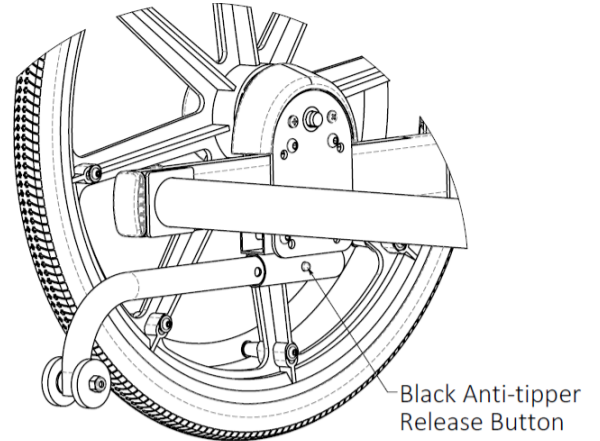

Figure 16.32: Installing rear anti-tip
1. Press and hold the release button on the anti-tipper tube. (See Figure 16.32)